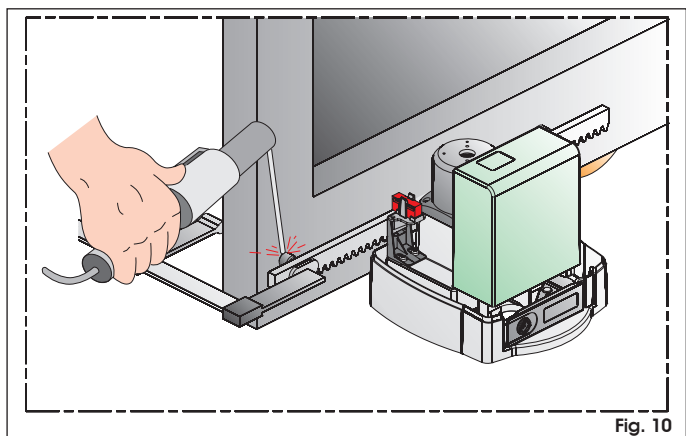

Fig. 10
4. Lay the first element of the rack on the pinion, on the first spacer (fig. 10).
5. Secure the rack element to the leaf with a clamp (fig. 10).
10. Weld the element's three spacers (fig. 10).